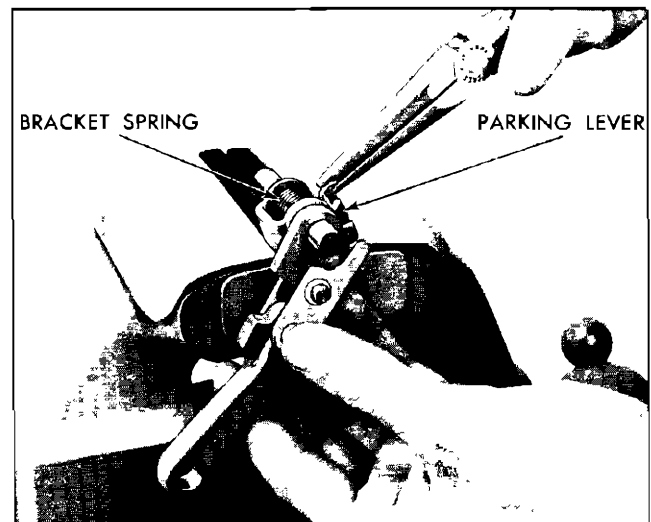

Fig. 93 Removing Parking Bracket Spring from Parking Lever
1. Install assembly in vise using a soft jaw vise on dowel pin (Fig. 93).
1. Clamp dowel pin of parking bracket in soft jawed vise (Fig. 93).
3. Place bracket shaft approximately half way through bracket and spring and then slide pawl and lever assembly onto shaft so parking lever and links are as shown in Fig. 93.